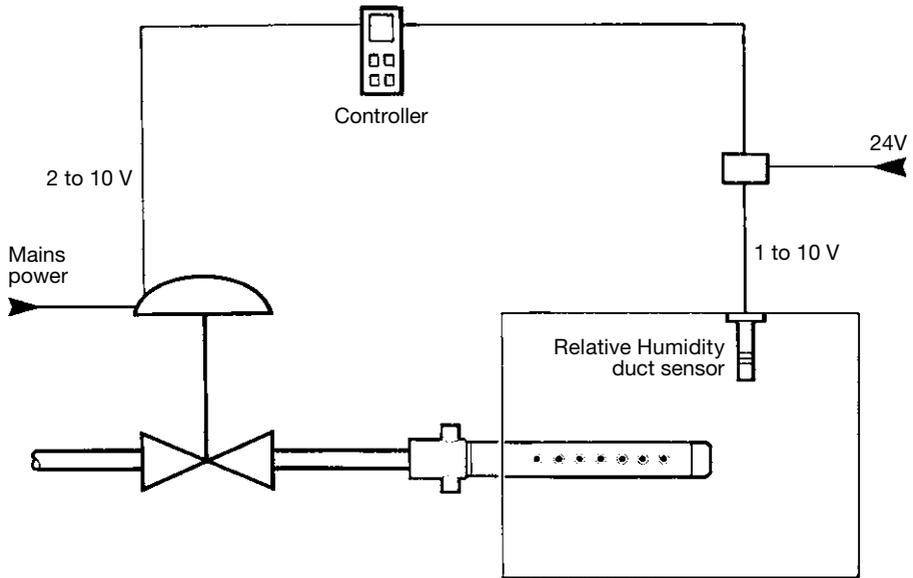

Fig. 21 Typical electrical control system
3.11.4 Figure 21 shows a typical electric control system.